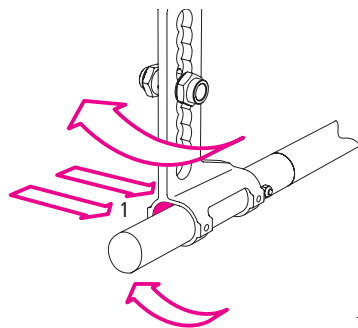

Fig. 51
3. Then insert both crescents and the screws (1, Fig. 51) on the opposite side.